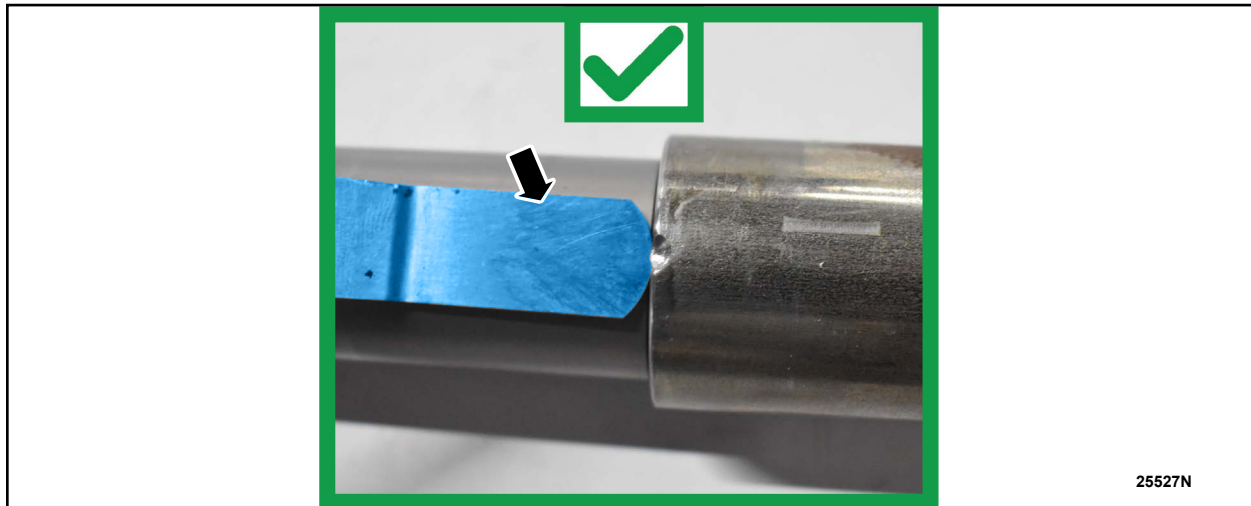

FIGURE 12
12. Using a 0.020 in (0.508 mm) feeler gauge, inspect both of the stakes. *See Figure 12.*
YES - *(Passes Inspection) See Figure 12.* Install the steering column upper shaft back into the vehicle. Follow the WSM procedures in Section 211-04. This completes the FSA, *claim Labor Operation code 25S94C - no parts replaced.*